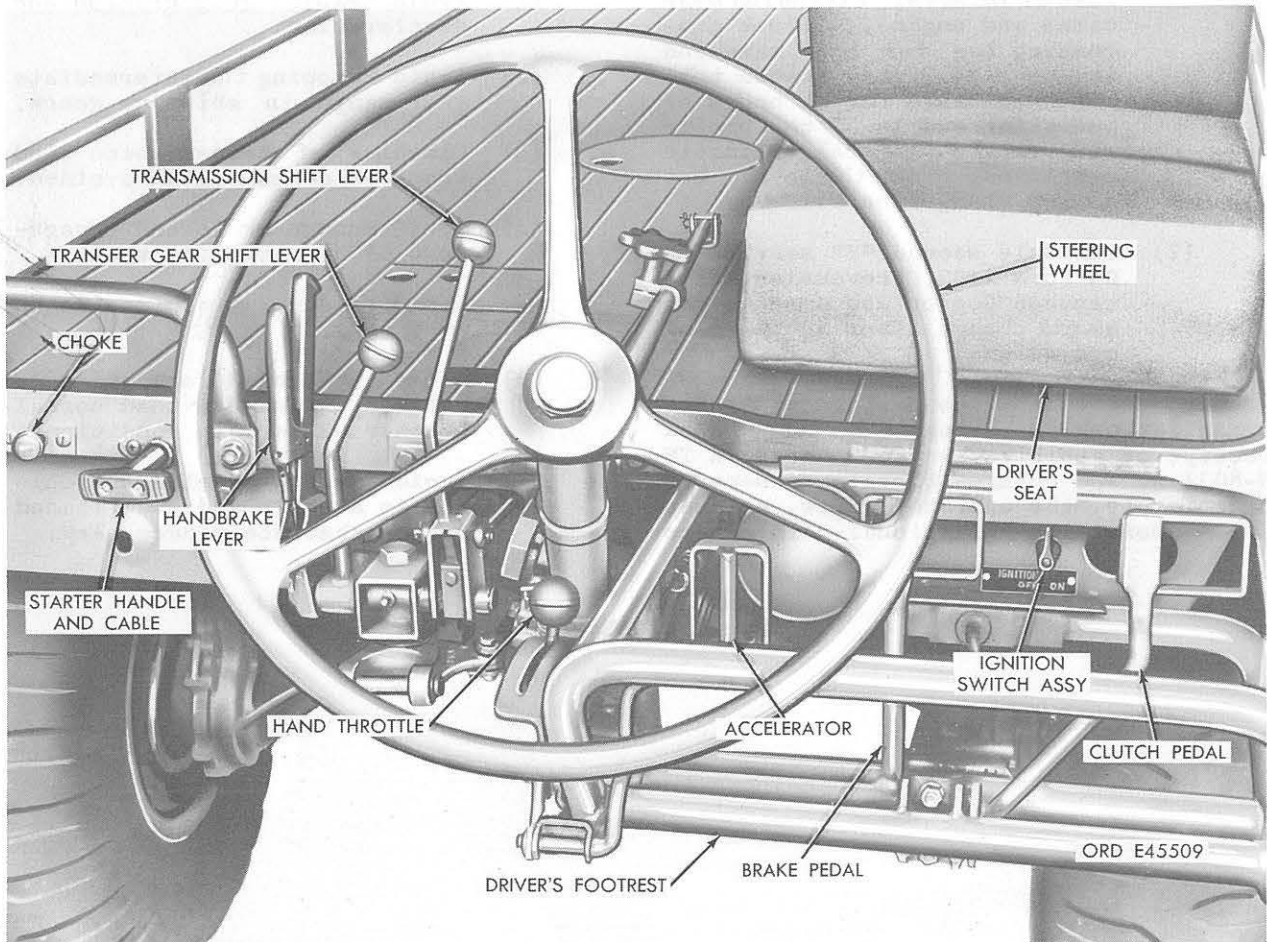

Figure 21. Driving controls as seen from standing position while driving vehicle backward.
a. General. Location of all the various operating controls for the M274 and M274A1 vehicles are shown in figures 21 and 24.
d. Transfer Gear Shift Lever. The transfer gear shift lever (fig. 21), located at front of platform at driver's right, enables the driver to select either a high-speed range for good driving conditions, or a low-speed range for rough or hilly driving conditions. The gears are in low-speed range when the shift lever
- a. Release the accelerator and apply brake pedal (figs. 21 and 22) until vehicle is nearly stopped.